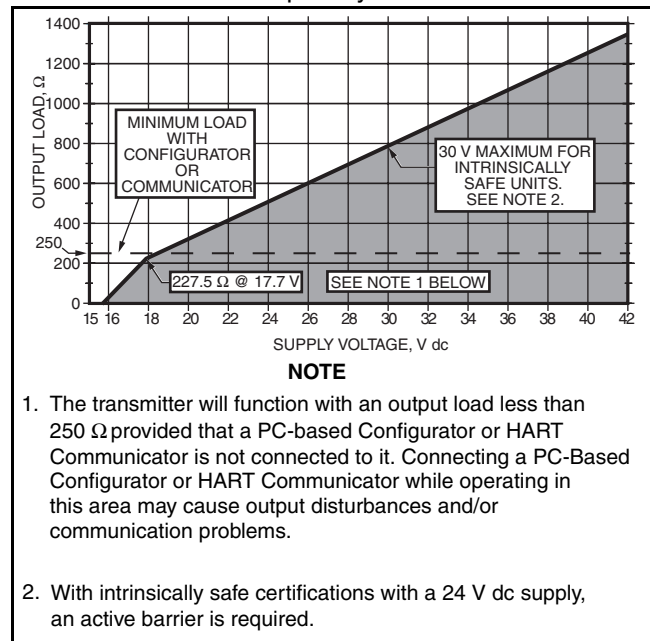

Figure 2. Supply Voltage vs Output Load for 4 to 20 mA Output
15.5 to 42 V dc, depending on electrical safety approvals and certifications. Refer to Figure 2.